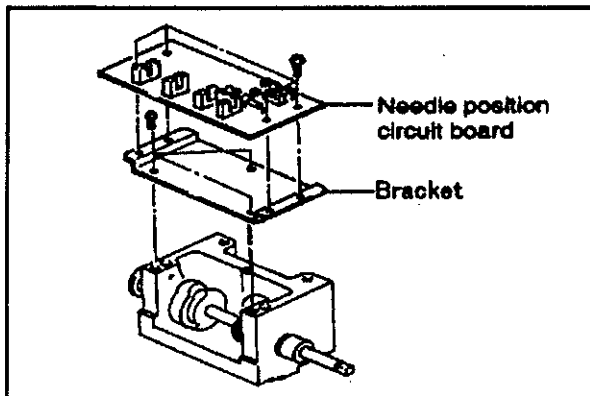

FIG.7
- (10) Replace the bracket using the three retaining screws (h) (Fig.7).
- (11) Replace the needle position circuit board using the four retaining screws (i) (Fig.7).